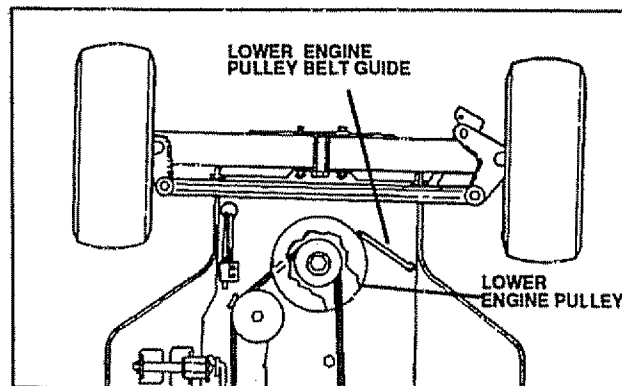

FIG. 20
- Flex lower engine pulley belt guide away from pulley (see FIG. 20).